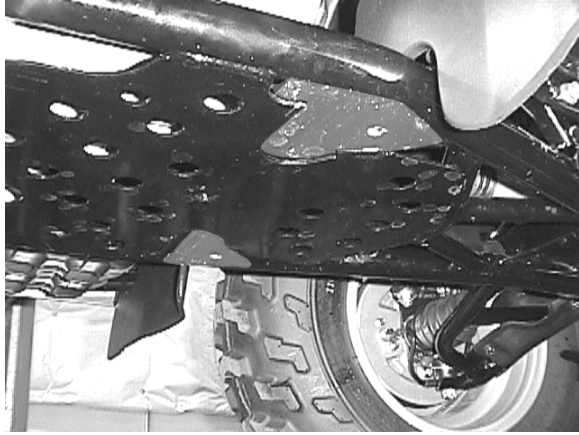

Figure 2
For 2002 or newer models, attach the mount using the center slots. Before you can attach the mount, you will have to drill through the skidplate as shown in Figure 2. Using a 5/16" drill bit, drill through the existing holes on the bike located on the inside of the tubing and near the front of the bike. Attach the bike to the chassis using two 5/16-18 x 1-3/4" Bolts and 5/16" Nylock nuts.
1. Slide the plow into position with the tubes under the ATV. Lift the end of the tube assembly into position so the holes in the tube wings line up with the 3/8" holes in the frame brackets (Figure 2).